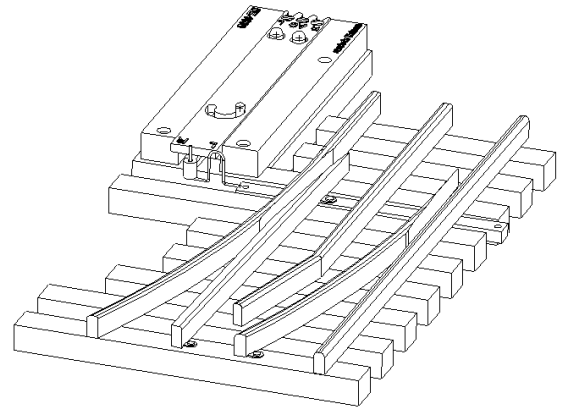

Figure 3
3. Place the DZ-1000 into position on the long tie (or onto the table) and fasten using the two 3/8" screws. Use two 3/4" screws if mounting to table. (Figure 3) **Do not over tighten screws.**